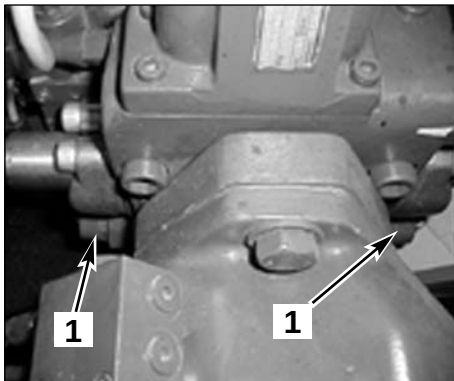

Fig. 2
- Undo the heads of the limiters on the bypass valves (1 fig. 2) situated under the transfer movement pump 2 or 3 turns, using a 22 mm open-ended spanner.
- Once towing is complete, tighten the heads of the limiters on the bypass valves (1 fig. 2) as far as they will go using a 22 mm open-ended spanner.